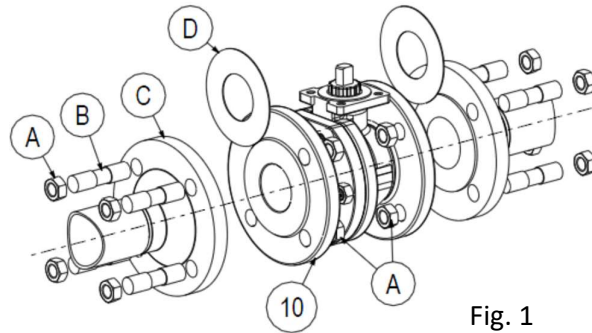

Fig. 1
- 1) Loosen the nuts (A) and remove the threaded studs (B).
- 2) Extract the two flange gaskets (D) (Fig. 1).